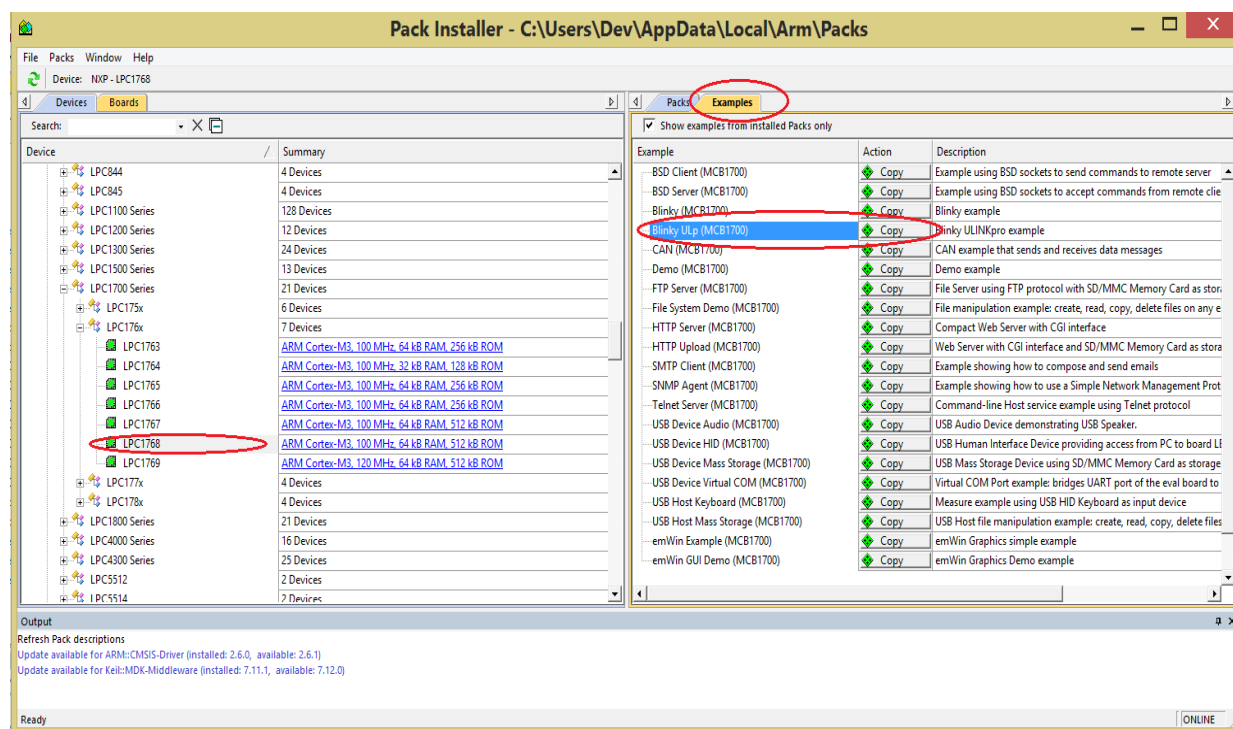

Fig. 3: Copying [NXP->LPC1700->LPC176x->LPC1768] Blinky Project
3. The Pack Installer Opens up Select the Blinky ULp Project. As shown in Figure 3.